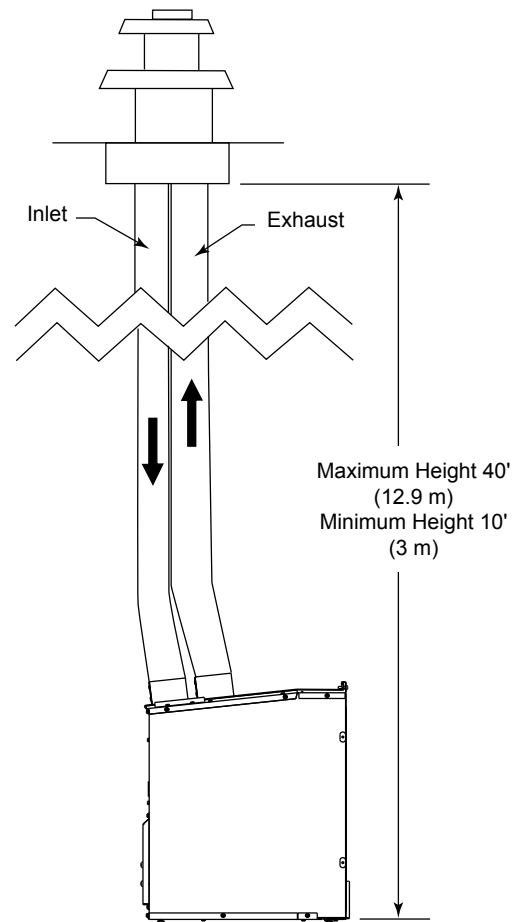

Figure 7 - Venting Unit
- Make sure the exhaust pipe on heater connects to exhaust portion of cap. Attach flex liners. *Figure 7*